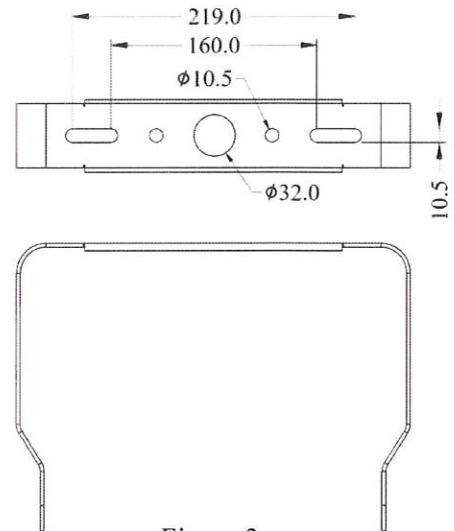

Figure 3
- ☞ Secure the mounting bracket to the structure by using four fasteners (not provided). (Figure 3)